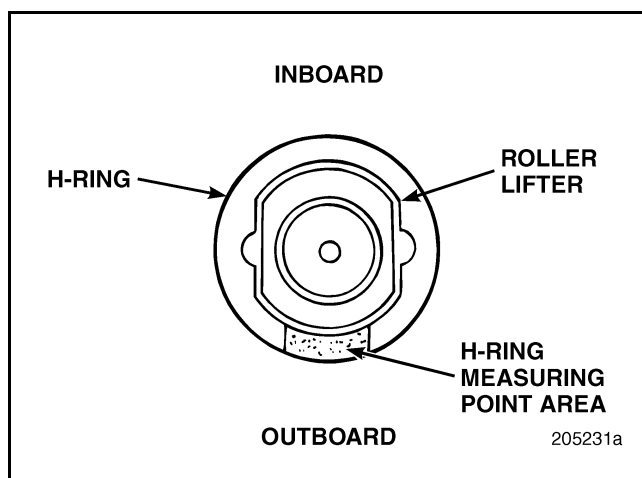

Figure 457 — H-Ring Measuring Point
2. Place a length of welding rod (approximately 15 inches long) on top of the H-ring, at the outboard side. Refer to Figure 457.